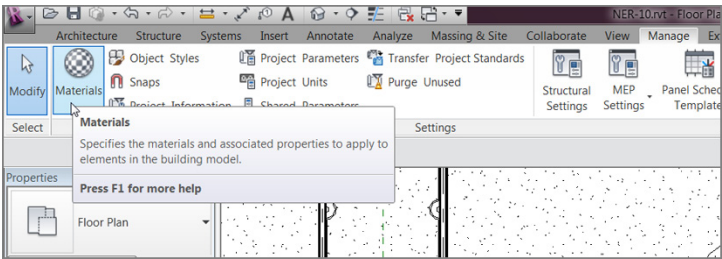

FIGURE 9.70: Clicking the Materials button on the Manage tab
1. On the Manage tab, click the Materials button, as shown in Figure 9.70.